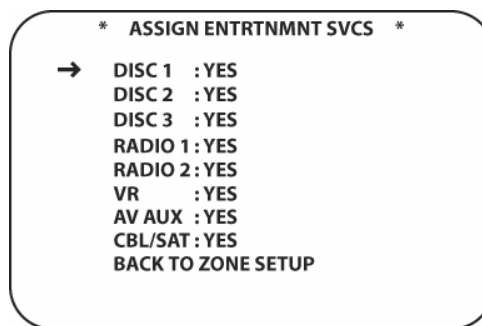

Figure 102 Assign Entertainment Services Screen
1. From **ZONE SETUP PAGE 1**, with the cursor next to **ASSIGN ENTERTAINMENT SERVICES** press the **Set Button [oval 18]**. The **ASSIGN ENTERTAINMENT SERVICES** screen will appear. (**Figure 102**)